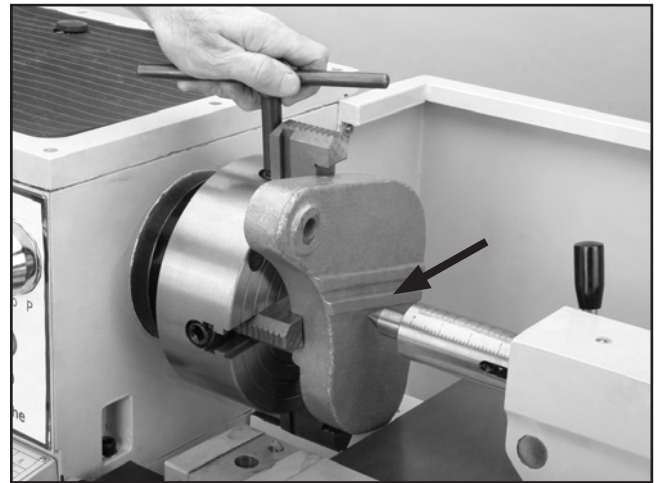

Figure 25. Centering workpiece.
5. Tighten each jaw in small increments. After you have adjusted the first jaw, continue tightening in opposing sequence (see **Figures 25 & 26**). Check frequently to make sure you have not wandered off your center point due to applying too much pressure to a single jaw.